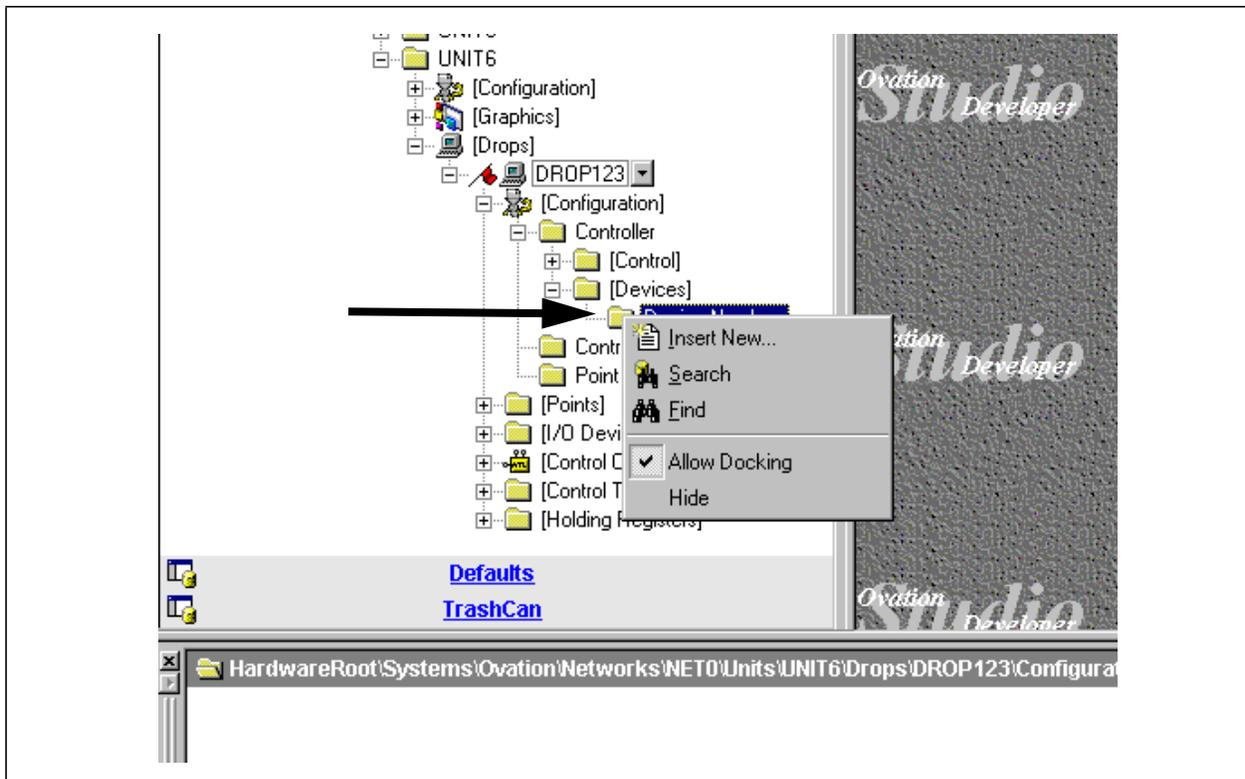

Figure 3-2. Device Numbers Folder
3. Use the following path to access the Device Numbers folder (see Figure 3-2):